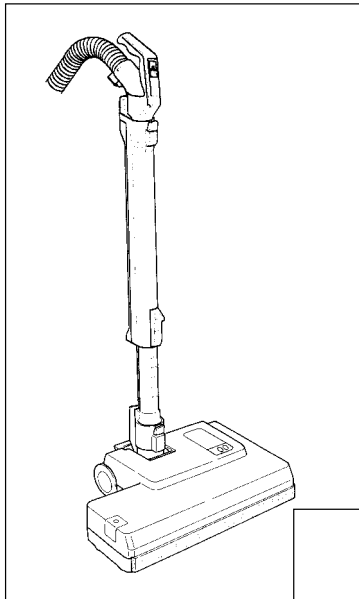

Figure 1
## Starting The Machine - Figures 1 & 2
A. Before turning on your canister, make sure that the vacuum handle is in its upright locked position (figure 1).
B. When the power head is switched on with the handle in the upright locked position (see figure 1 above), the brush roller will not spin. To release the power head from the upright locked position, press down on the foot pedal (#5, figure 3) and lower the handle into the normal operating position. The brush roller will then start spinning and the green light on the power head will illuminate.